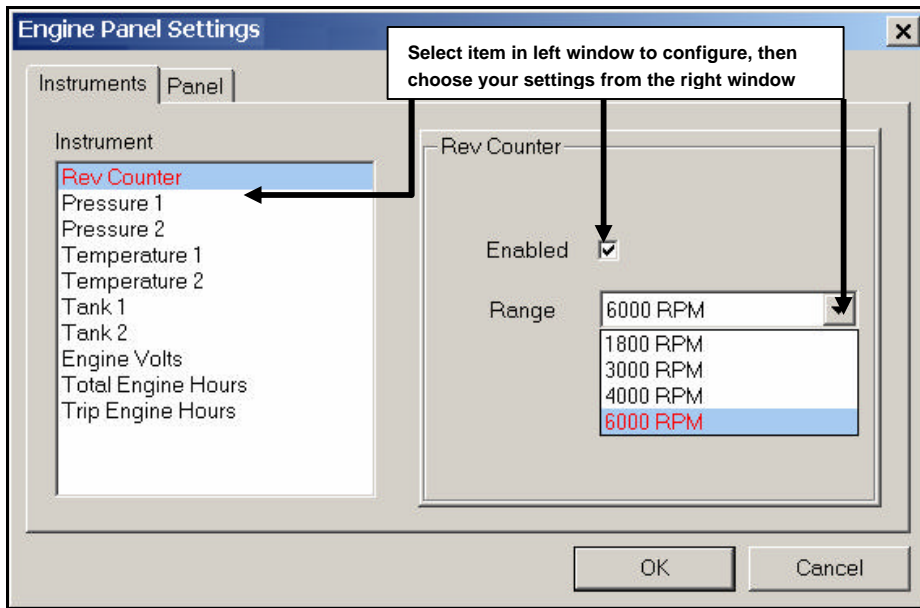

Figure 5-25. Engine Panel Settings Screen Showing Instruments Tab
1. Move the cursor to the title bar of the engine panel and click the right mouse button. From the pop-up menu that appears, select **Settings**. The Engine Panel Settings Screen is displayed (Figure 5-25).
2. If not already displayed, click the **Instruments** tab. As shown in Figure 5-25, the screen is composed of two halves. The left side contains the available gauge types, while the right side shows the options you can select for a particular gauge.